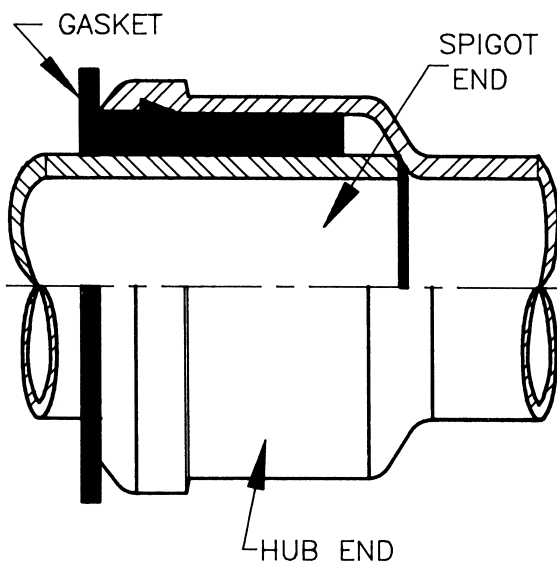

Figure 2-9. Compression joint.
**The hub, or bell, and spigot joint** uses pipe with two different end types. The hub end of the pipe has an enlarged diameter, thus resembling a bell. The spigot end of the adjoining pipe has a flat or plain-end shape. The spigot is inserted into the bell to establish a joint. Two methods of preventing leaks on bell and spigot joints are *compression* and *lead and oakum*. The compression joint uses a one-piece rubber gasket to create a leak-proof seal. As shown in Figure 2-9, when the spigot end of the pipe is placed into the hub containing a gasket, the joint is sealed by displacing and compressing the rubber gasket. Unlike welded pipe, this joint can absorb vibration and can be deflected up to 5° without leakage or failure.